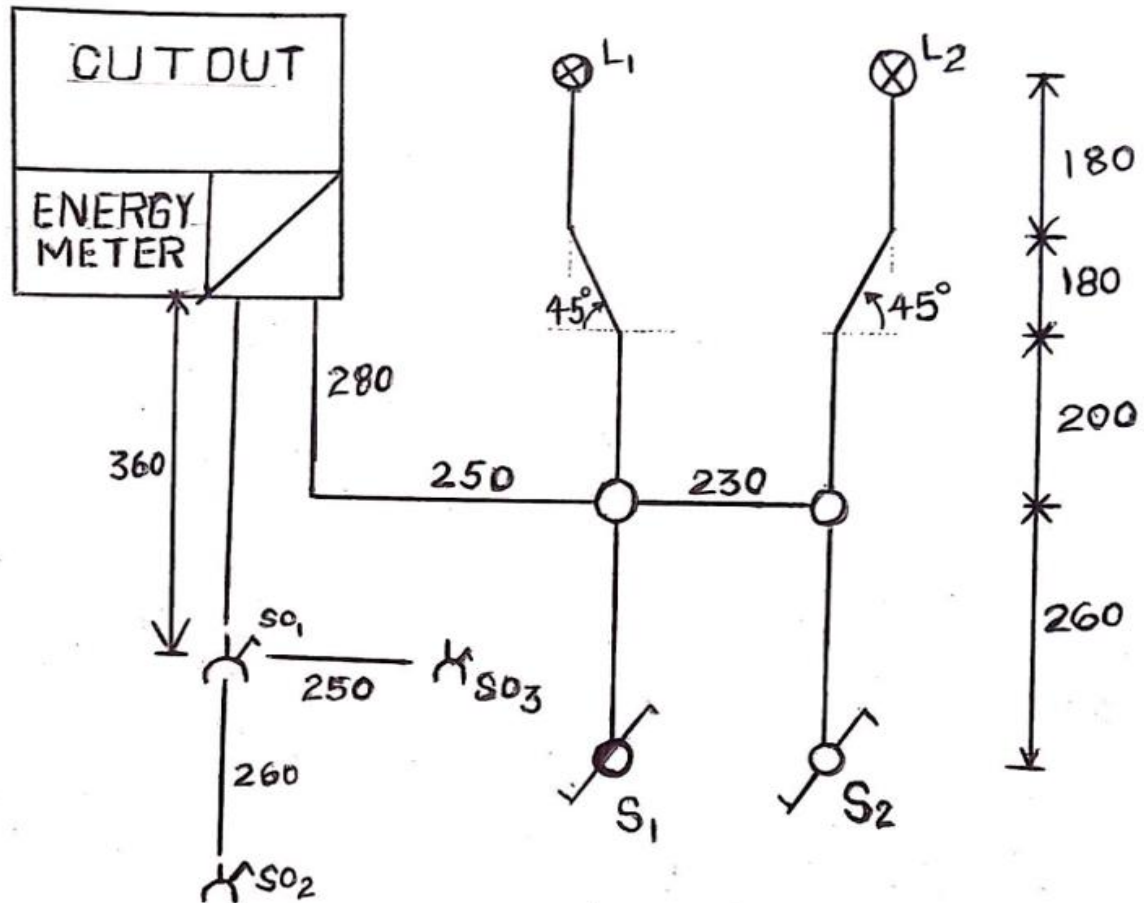

Figure 1
1. Prepare both metallic and PVC conduit work pieces for the installation of Figure 1
2. Mount metallic conduit work pieces for the installation of Figure 1
3. Mount PVC conduit work pieces for the installation of Figure 1
1. Figure 1 shows a layout diagram of final sub-circuits. Draw a wiring diagram such that:
2. Using PVC conduit wiring system, install the circuit in Figure 1